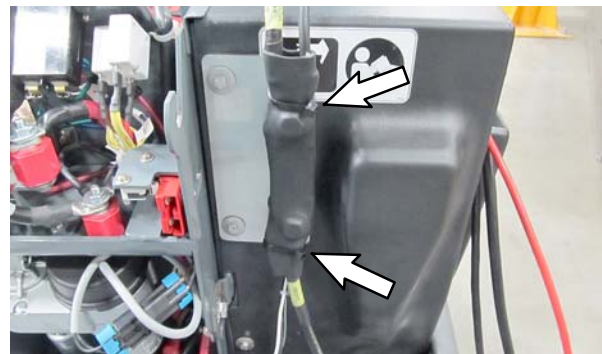

Fig. 9
10. Use the two wire ties (6) on the shunt bracket (7) to secure the shunt (8) and the telemetry harness (16) battery connector to the shunt bracket. (Fig. 9)